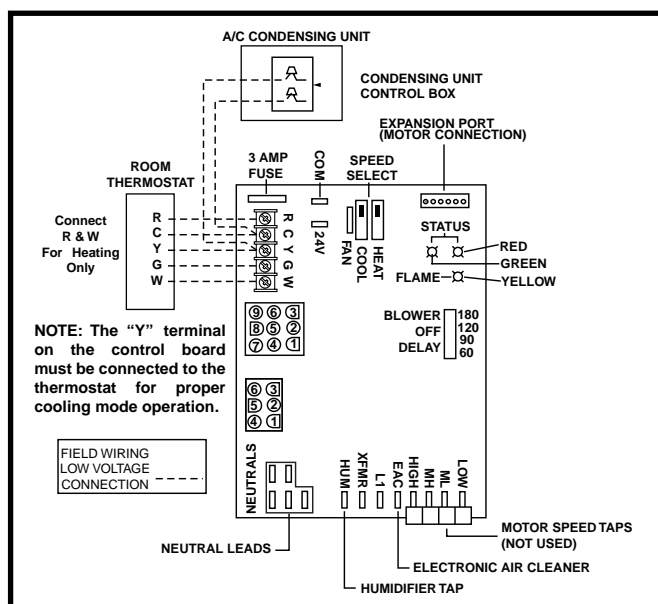

Figure 39. Low Voltage Field, Four-wire Heating / Cooling Applications
- The six pin terminal marked “Expansion Port” (Figure 39) is not used in the single stage furnace as shipped from the factory. It is used for the furnace control board to communicate to a fixed speed or variable speed high efficiency motor that may be optionally installed. Please contact your distributor for the proper upgrade motor kit. **Please Set the heat anticipator according to the instructions supplied by the thermostat manufacturer.** To determine the heat anticipator setting:
The operating sequences for the heating, cooling, and fan modes are described below. Refer to the field and furnace wiring diagrams: (Figures 39 & 40, page 32) & (Figure 42, page 39).